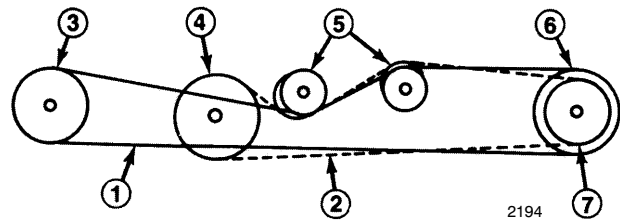

Figure 27
To replace traction or jackshaft belt, use the following procedures and belt routing diagram (Fig. 27).
3. Install belts, route traction belt over transmission as shown (Fig. 27).